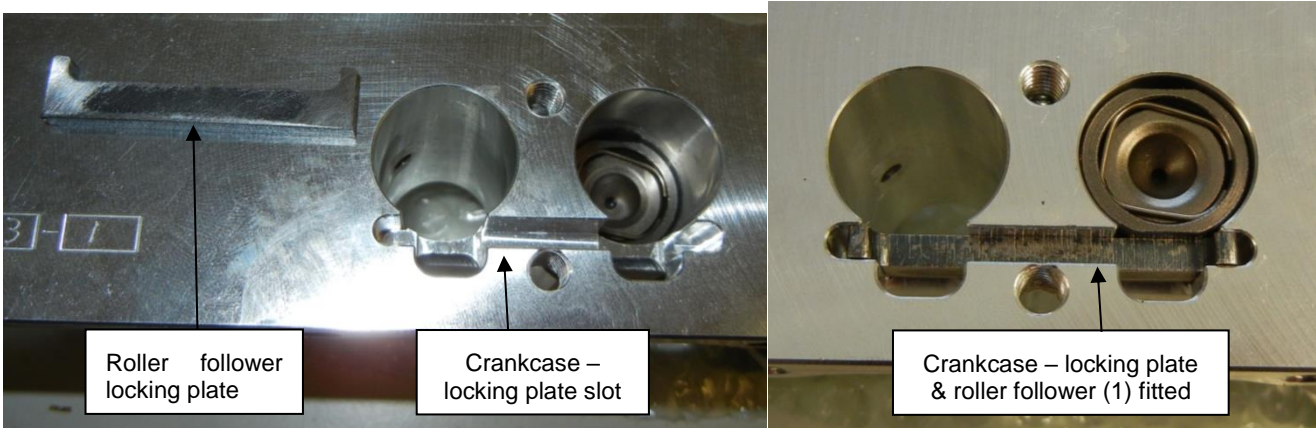

Figure 187 – Crankcase & Locking Plate
3. For engines equipped with roller cam followers the follower locking plates must be installed now – see Figure 187. This plate should be a neat fit with a small amount of clearance from the lifter. It may be necessary to lightly finish the plates before installing to remove sharp edges etc. Note the orientation of the plate when installed: the two “legs” on the plate must point out of the case.